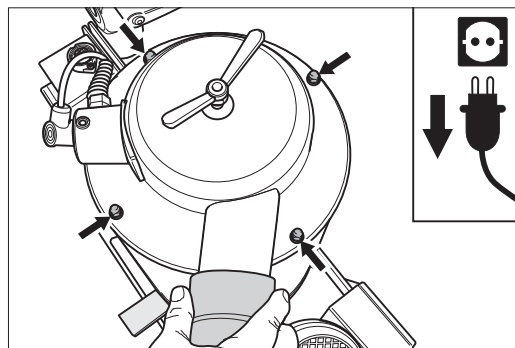
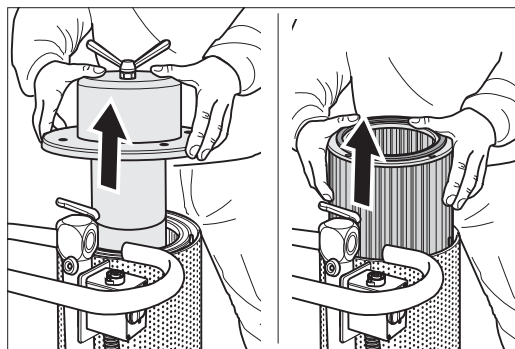

Fig. 27 Then remove the four cap nuts on the cover of the separator.
Fig. 28 Remove the cover and remove the filter insert.
- 6 Remove the four cap nuts on the cover of the separator (Fig. 27) and lift off the cover of the dust separation system in one straight move (Fig. 28).
- 7 Lift the filter insert out of the filter casing (Fig. 28). Clean it or replace it by a new one. Only use original LÄGLER® filter cartridges (Part number in the *Section 11, Spare parts*).